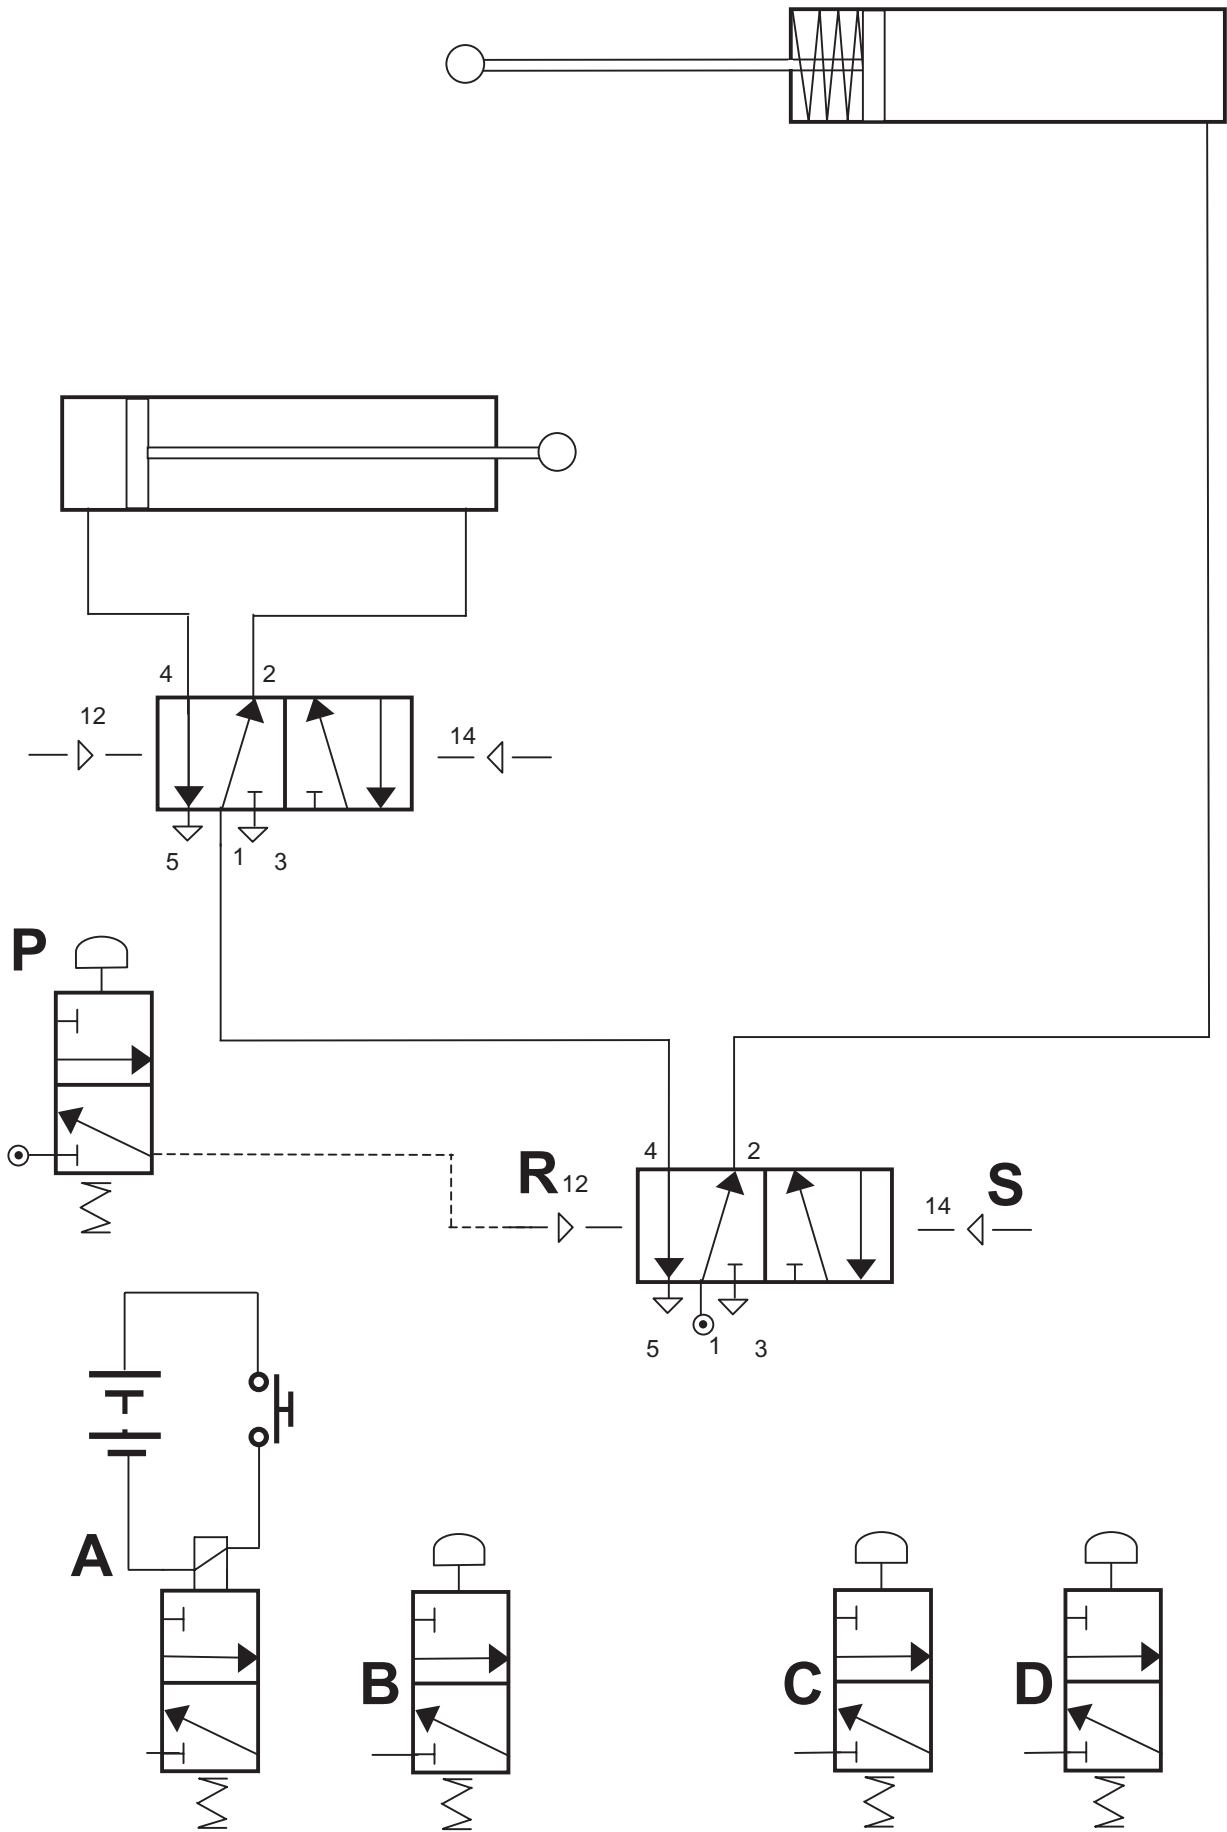

Fig. 12
**12 Fig. 12** shows part of an incomplete pneumatic system.